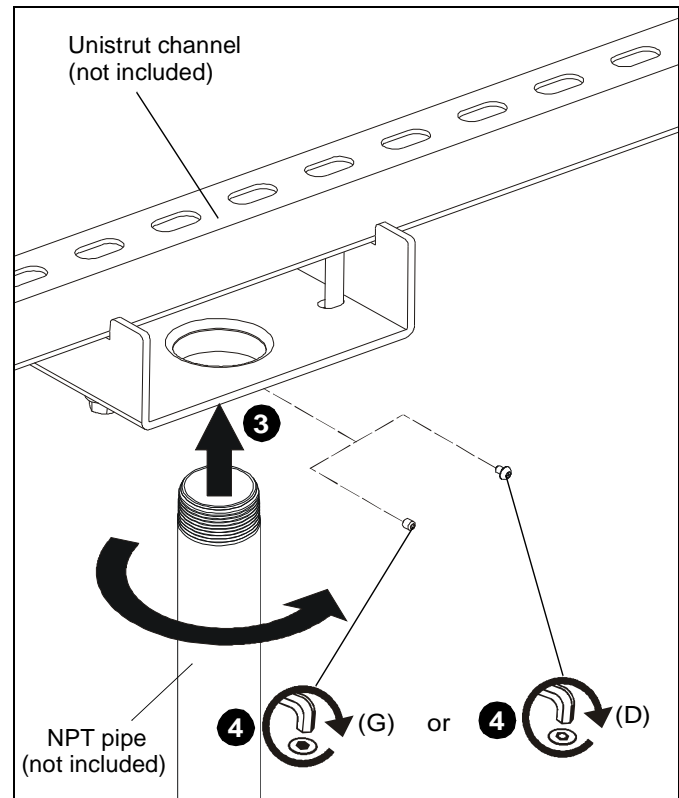

Figure 2
3. Install 1-1/2" NPT or NPSM following ANSI/ASME B1.20.1 (Schedule 40, 0.154" minimum thickness steel or aluminum - ASTM B221) threaded extension column (not included) into threaded collar until tight, with a minimum of four threads engaged. (See Figure 2)
4. Use #10-24 x 1/4" set screw (G) to secure pipe to ceiling adapter (A). (See Figure 2)